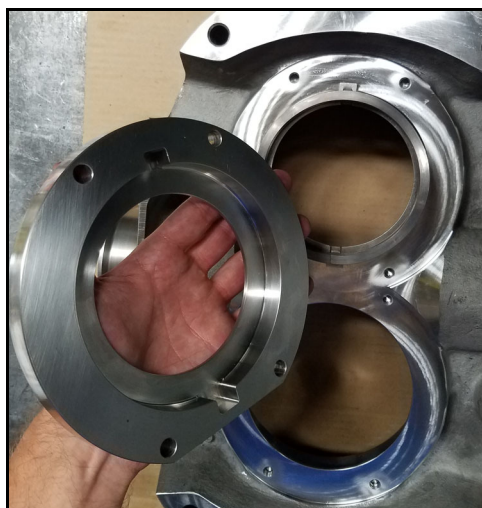

Figure 49 - Remove seal housing
2. Remove the seal housing. Figure 48 shows the design for 134-U3 and smaller sizes. See Figure 49 for 180-U3 and larger sizes.
3. Figure 49 shows the design for 180-U3 and larger sizes. See Figure 48 for 134-U3 and smaller sizes.